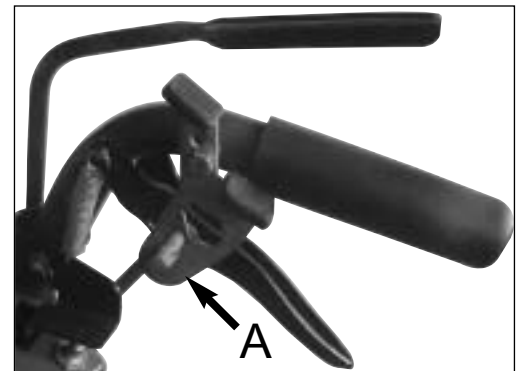

Figure 10
4. Move traction control rod "D" until there is approximately 1/2" clearance between the bottom of the traction control rod and the bottom of the slot in traction control lever lock "A" (figure 10).